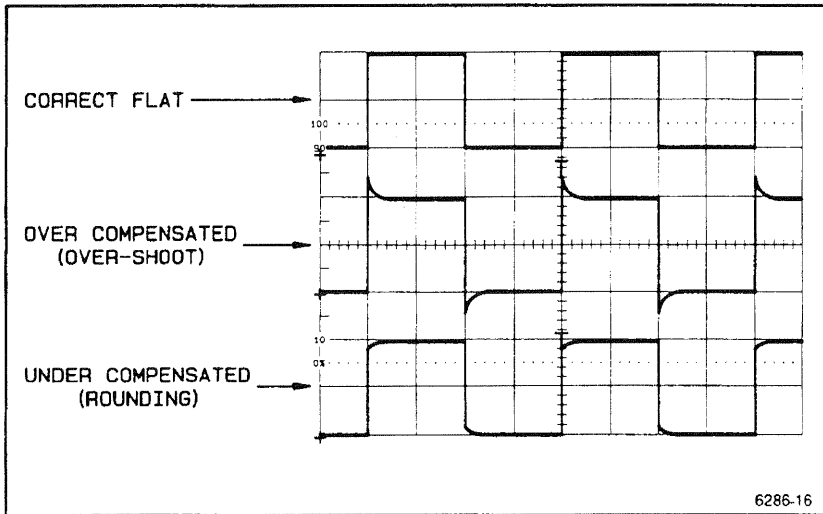

Figure 4-1. Probe low-frequency compensation.
8. Check the square-wave signal for overshoot and rolloff. (See Figure 4-1). If necessary, use a small-bladed screwdriver to adjust the low-frequency compensation for a square front corner on the square wave.